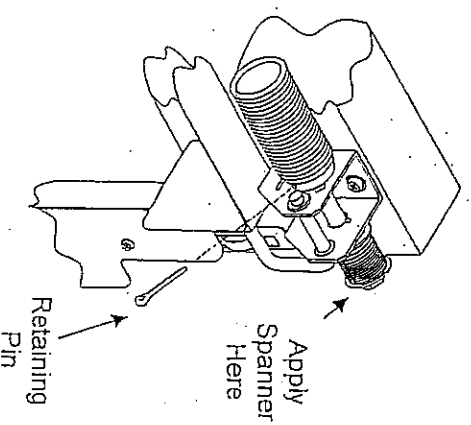

Fig. 1
2. Hold the R/Hand Pulley with the 22mm spanner and, by turning upwards, align holes in spring anchor bush and spring shaft. Inserting retaining split pin fully into the hole (See Fig. 1) and remove spanner